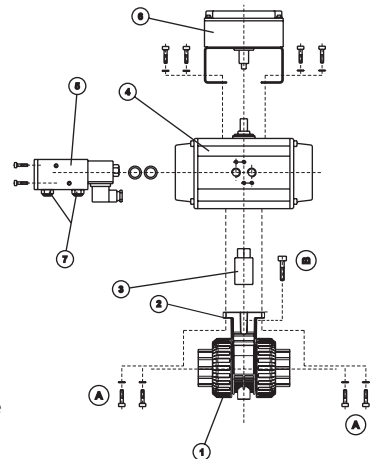

Fig. 19
5. Remove the screws (B, Fig. 19).
6. Separate the pneumatic actuator (4) with the mounting clamp (2) from the bare shaft valve (Fig. 19).
7. Remove the screws (A) in order to dismantle the actuator from the mounting clamp.
8. In the case that the actuator needs to be replaced by a handle, also remove the coupling bush (3, Fig.19).